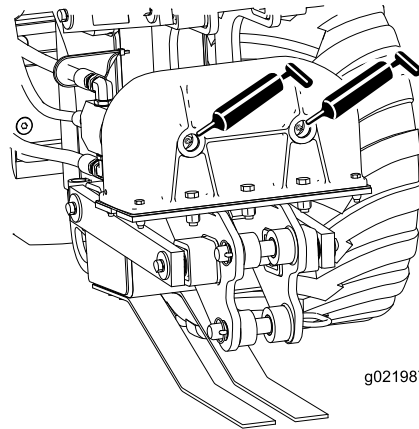
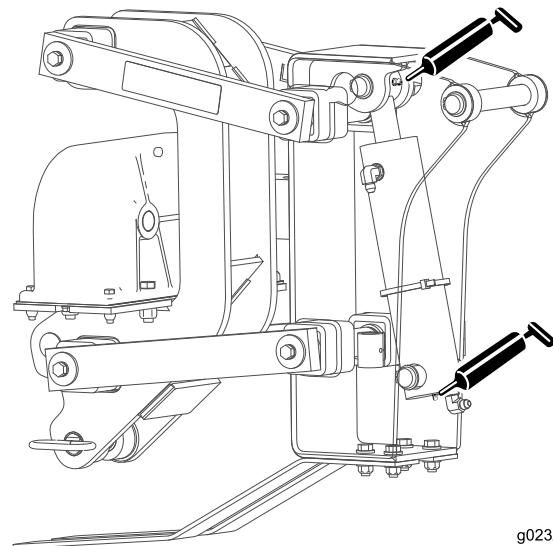
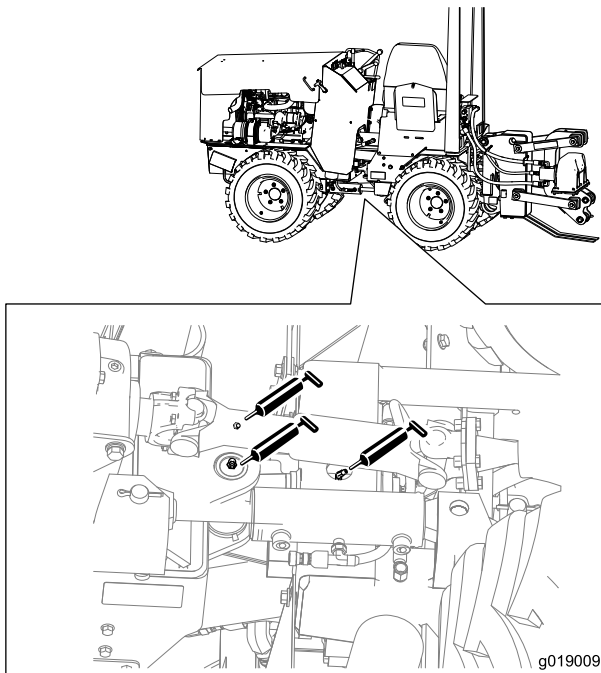

Figure 25
Figure 26
Figure 27
2. Connect a grease gun to each fitting (Figure 25, Figure 26, and Figure 27).